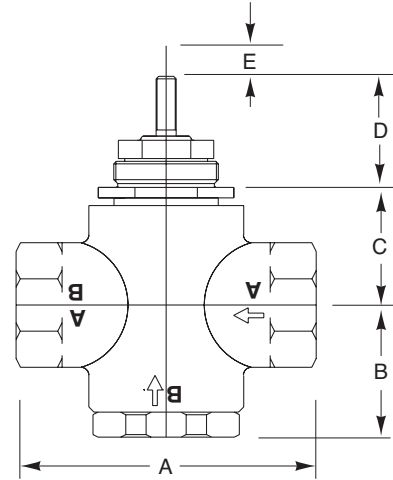

Figure-5 Typical of VBS-9263-0-6-P Valve Bodies.
**Table-10 Dimensions for VBS-9263 Series Valves (Figure-5).**